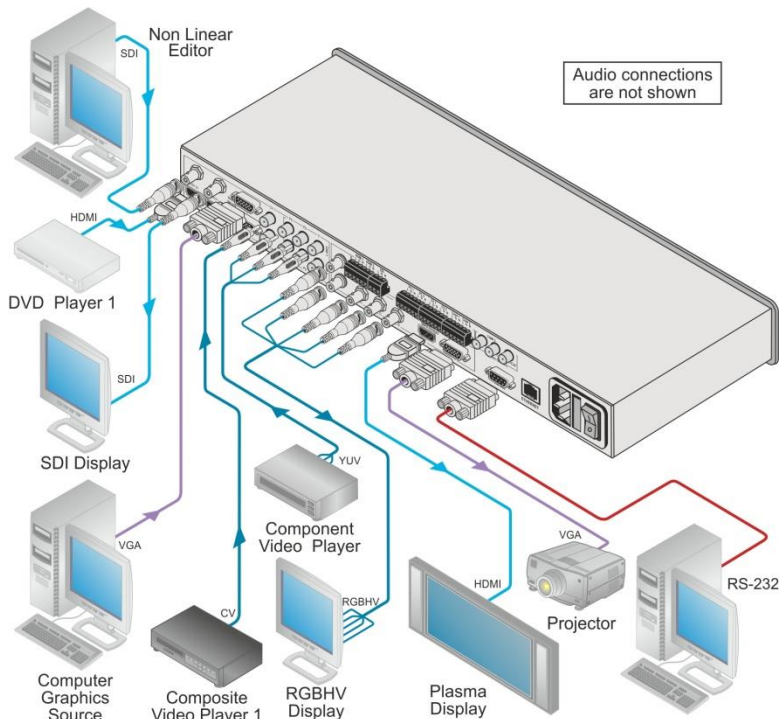

Figure 3: Connecting the VP-690 Presentation Switcher/Scaler
To connect the **VP-690**, as illustrated in the example in Figure 3, do the following:
7. Connect the audio input signals to the AUDIO INPUT terminal block connectors, as required (not shown in Figure 3).
11. Connect the audio output signals to the AUDIO OUTPUTS stereo analog audio acceptor and/or the digital audio acceptor, as required (not shown in Figure 3).
12. Connect the power cord (not shown in Figure 3).